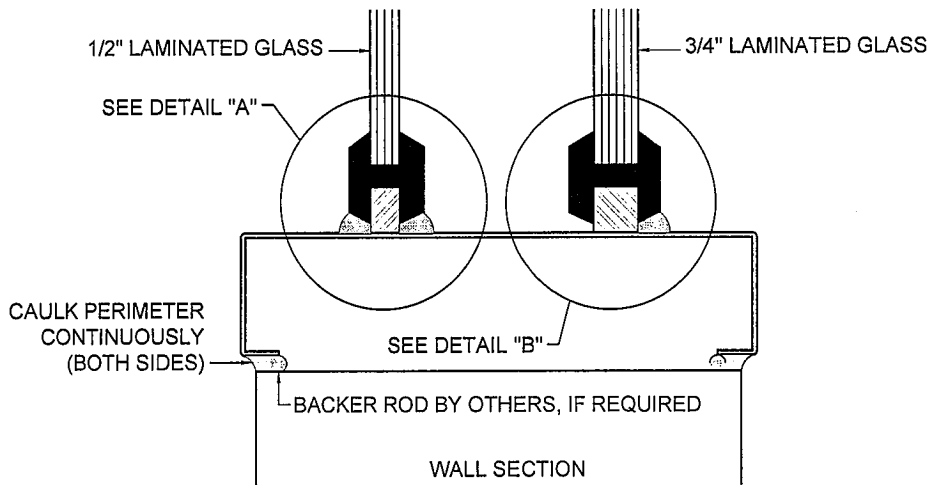

FIGURE 2
- F. Caulk frame continuously around perimeter of frame on both sides as shown in Figure 2.
- E. Caulk frame continuously around perimeter of frame on both sides as shown in Figure 2.
- C. Caulk frame continuously around perimeter of frame on both sides as shown in Figure 2.
- C. Caulk frame continuously around perimeter of frame on both sides as shown in figure 2.
- A. Locate the "H" shaped continuous main seal gasket with a 1/2" groove around the outside of the seal. Place this gasket over the 1/2" wide bar attached to the frame. A rubber mallet may be required to pound the gasket against the frame to properly seat the seal. See Figure 2.
- D. Run bead of caulking around the "zipper" side of gasket as shown on Figure 2, Detail "A".
- E. Locate the "H" shaped continuous main seal gasket with a 3/4" groove around the outside of the seal. Place this gasket over the 3/4" wide bar attached to the frame. A rubber mallet may be required to pound the gasket against the frame to properly seat the seal. See Figure 2.
- H. Run bead of caulking around the "zipper" side of gasket as shown on Figure 2, Detail "B".